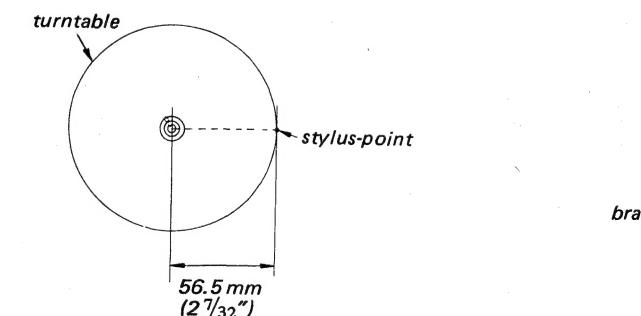

Fig. 3-5
2. Move the tonearm into the turntable center by hand so that the head is kept apart from the CdS and lamp holders (See Fig. 3-5).
4. Set the position of the stylus as shown in Fig. 3-5 and turn the screw so that the VOM reads 4.4 V dc.